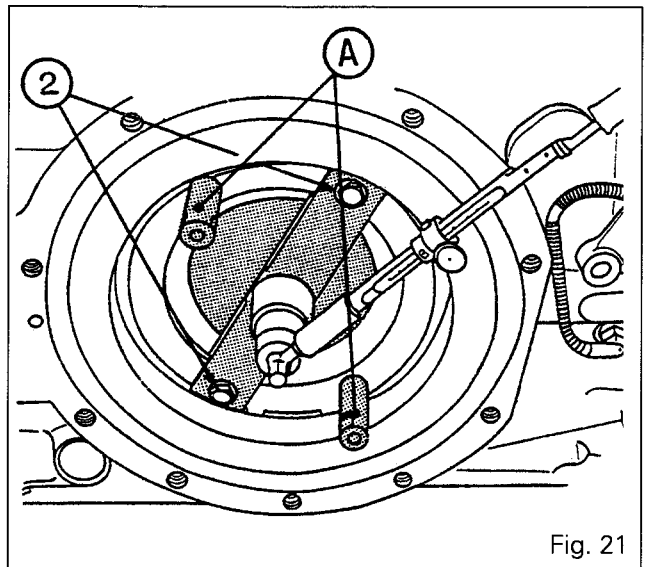

Fig. 21
99. Now determine shims (Fig. 21) to obtain pre-load **P2 = zero to +0.25**